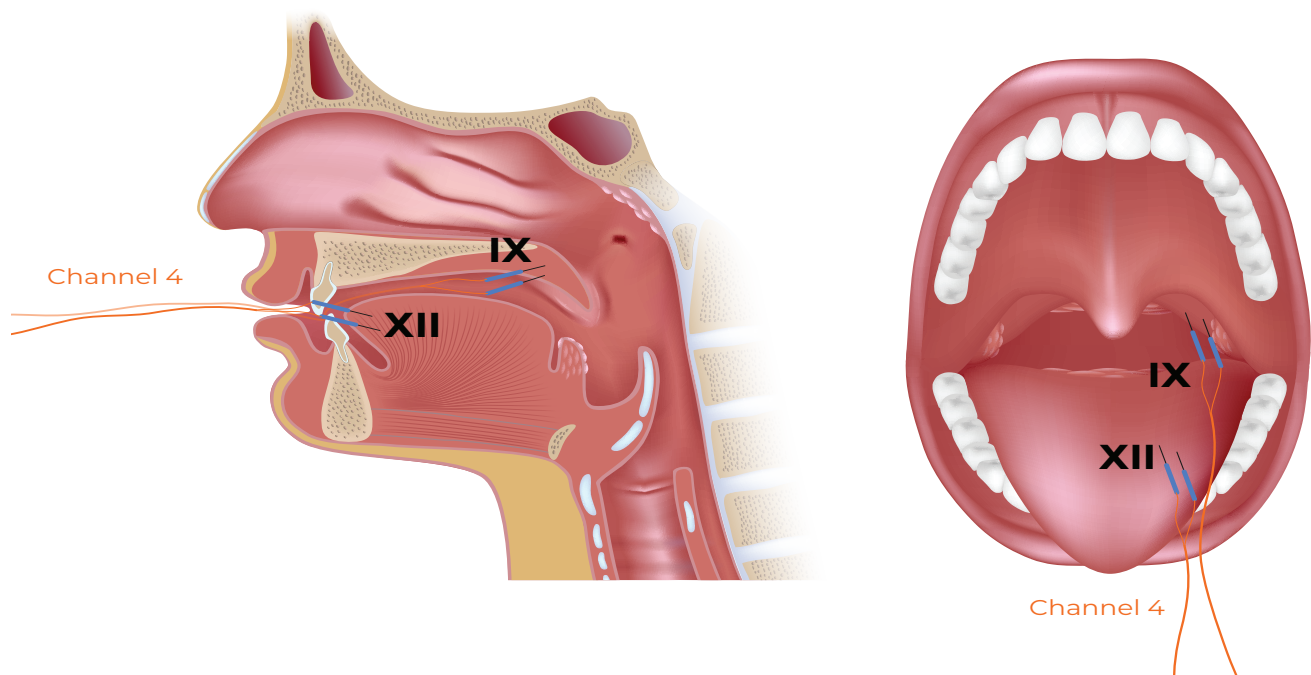

Figure 11.2: Differing options for monitoring of cranial nerves XI & XII.
4. Look at Figure 11.2 to see where to insert the Subdermal Needle Electrodes for cranial nerves IX or XII. Subdermal Needle Electrodes should be inserted after the patient is intubated. Use Magill forceps to insert both needles at once, either on the ipsilateral side of the uvula into the soft palate (IX), or to the tongue on the ipsilateral side (XII).